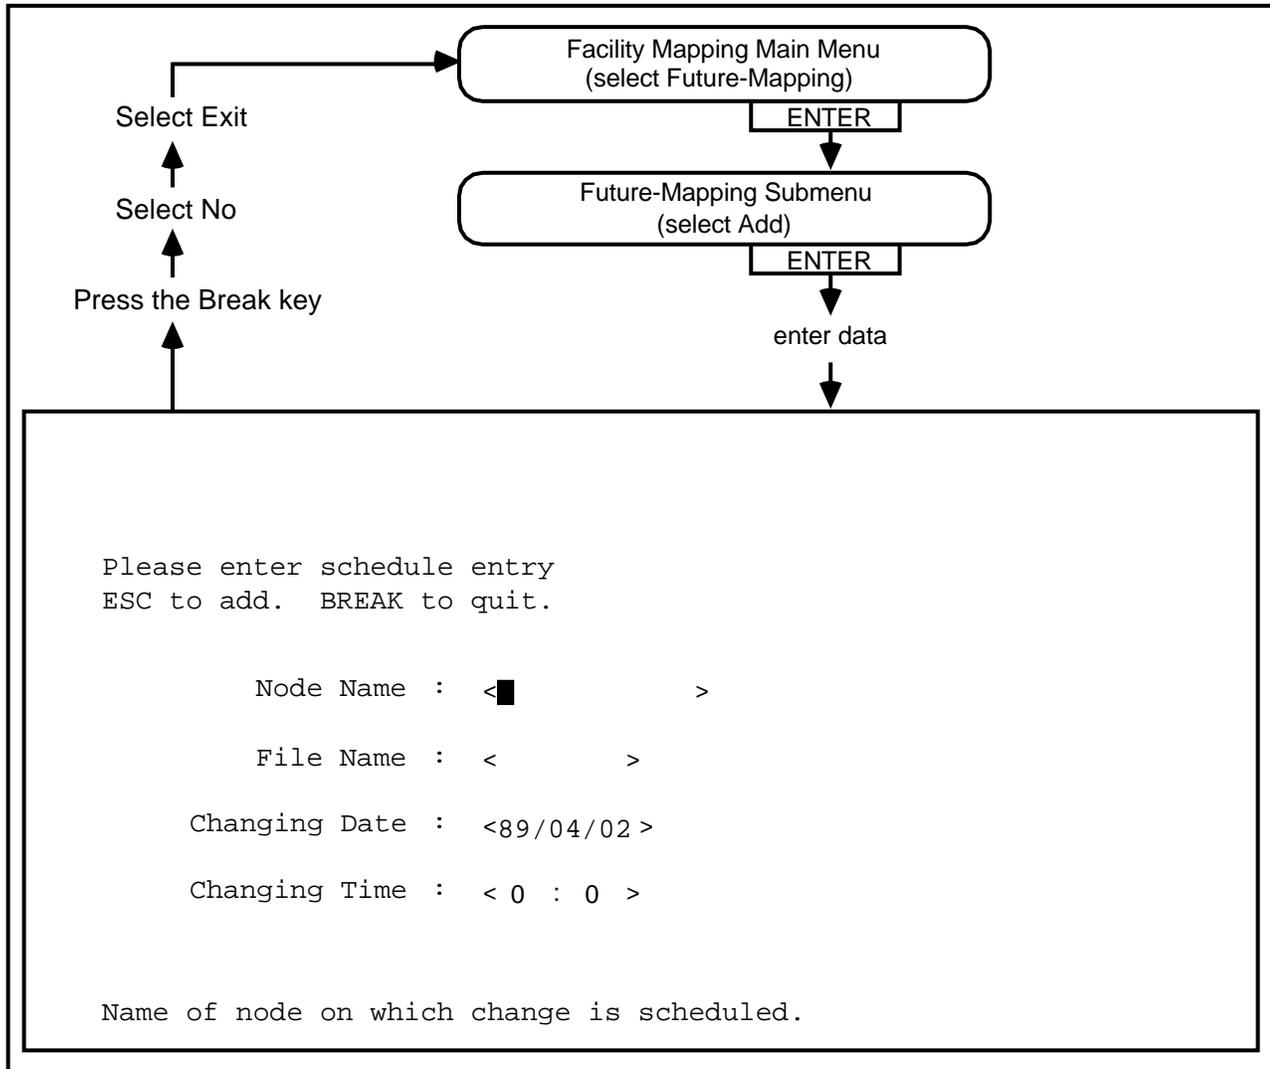

Fig. 7-10
7.23 Field Information. Using the schedule screen (see Fig. 7-10) the user can create a mapping schedule. The following list describes the information required as data for the fields of the schedule screen .
7.24 The Procedure for Creating a Mapping Schedule. To add a new mapping schedule to the database (see Fig. 7-10) proceed as follows: